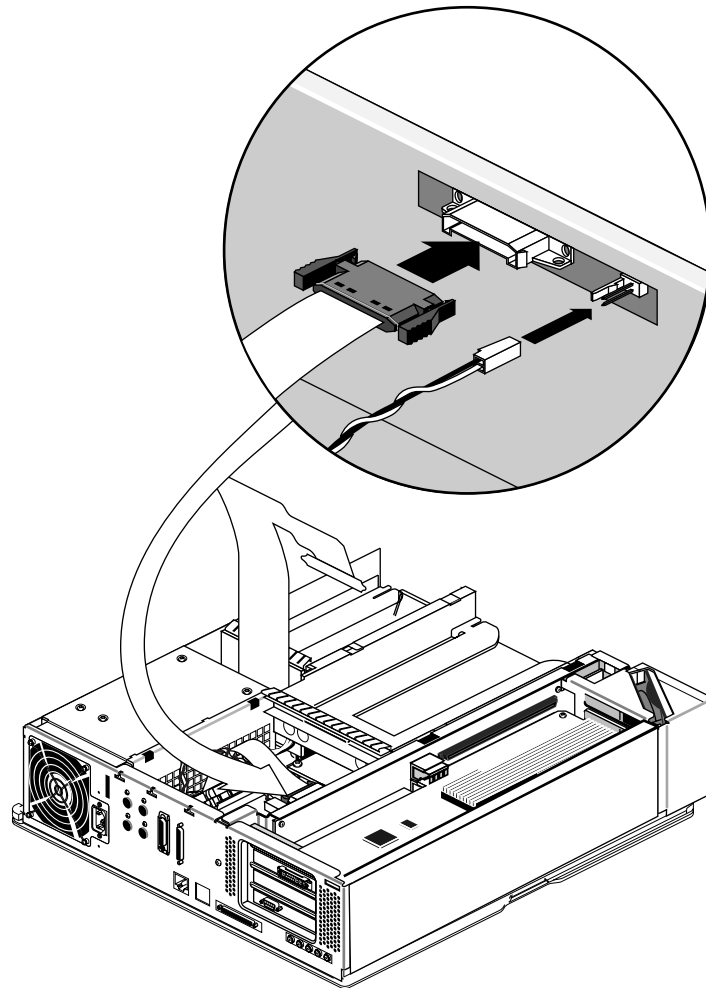

Figure 2-30 Connecting the Power and Twisted Pair Cables to the Midplane
- Pinch together the corrugated edges on the power cable connector, and connect it to the midplane. See Figure 2-30.